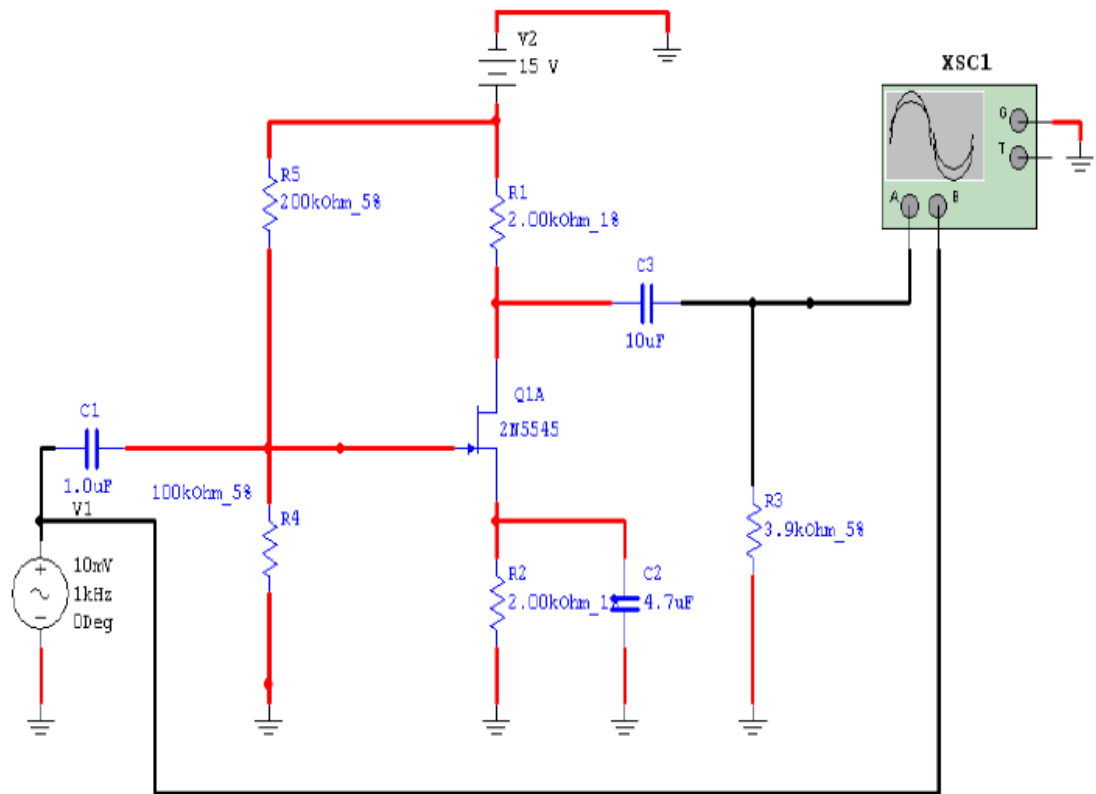

Fig.9 CS-JFET amplifier
- Construct the circuit shown in Fig.9; with the above presented components.